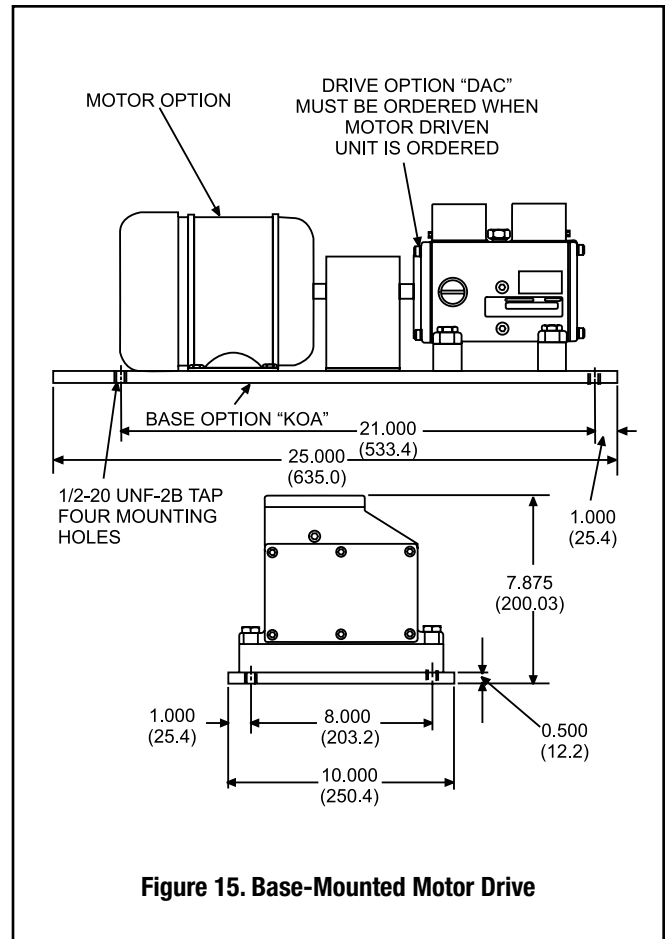

Figure 15. Base-Mounted Motor Drive
**Motor Drive.** A 1/4 Hp motor-driven gearbox is available directly from Graco for remote location applications and pre lubrication capability. The motor is available in 115/230 VAC single-phase (option MOA) or 230/460 three-phase (option MOB) ratings. A base (option KOA) is available to provide secure mounting for the motor and gearbox. Figure 15 shows a typical arrangement of motor and gearbox mounted on the base.